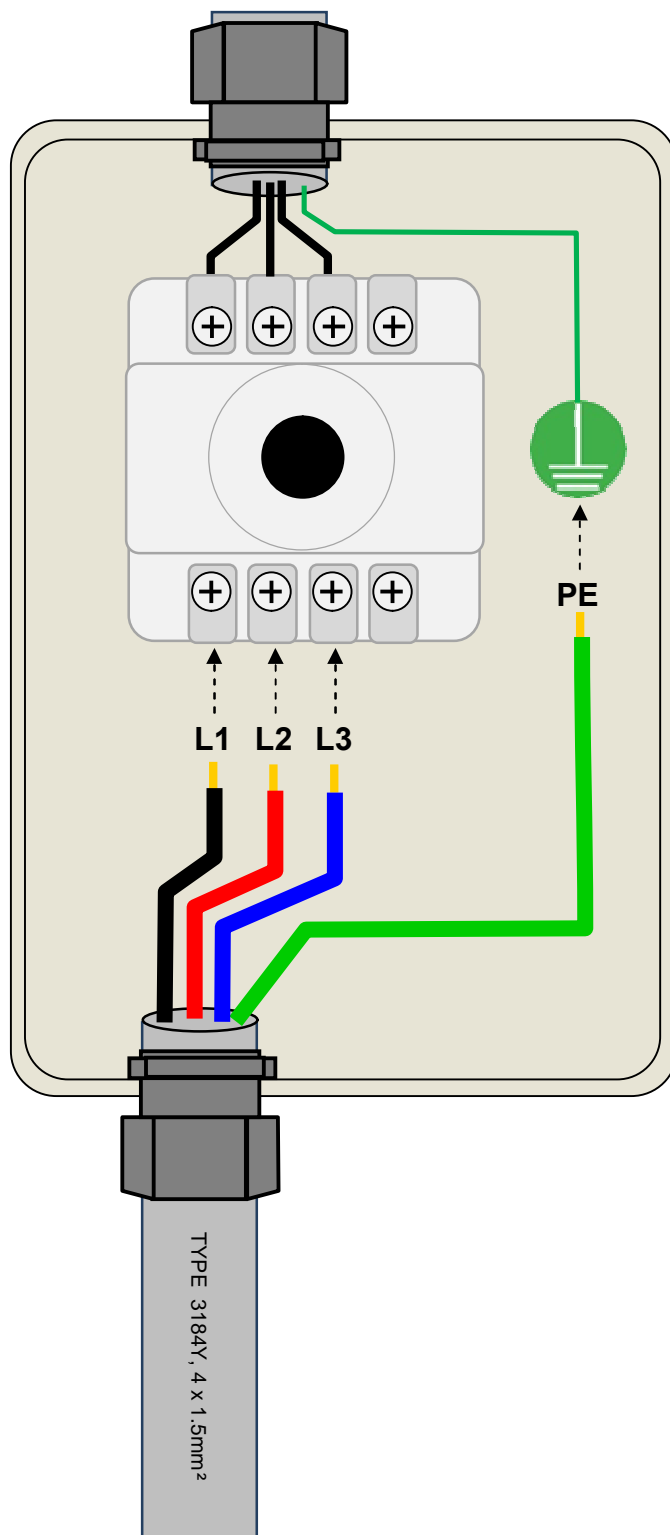

Figure 3 - Inlet Station Mains cable connection at the isolator switch on the rear panel of the machine.
- 5.4.3 Run the mains cable to the mains isolator switchbox on the rear of the Inlet Station and connect as shown in figure 3.